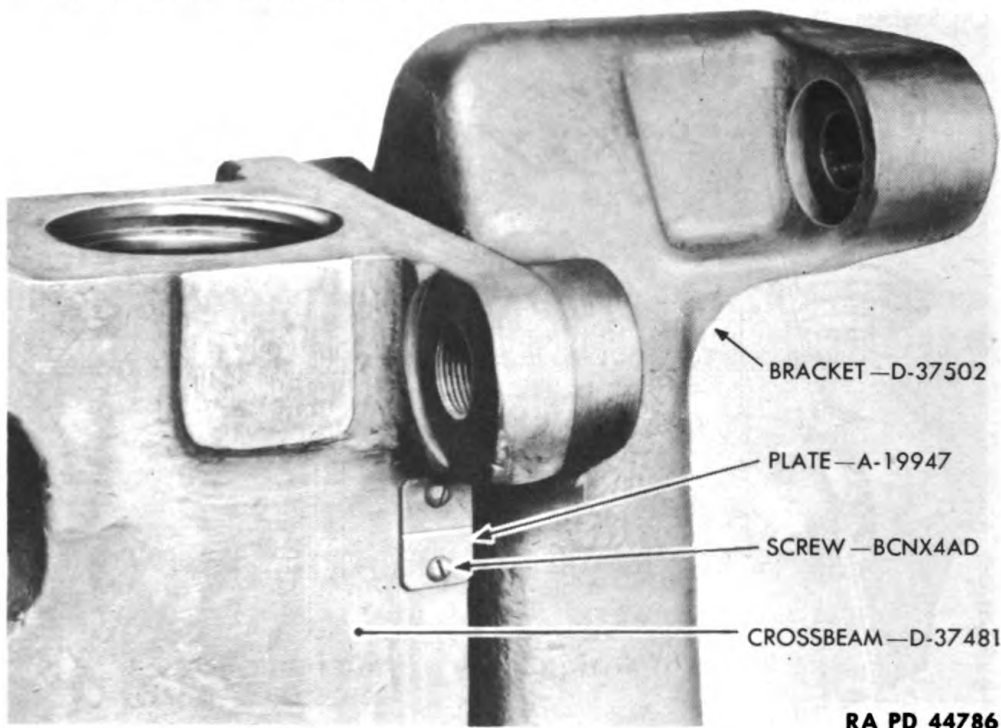

Figure 274—Indicator Plate
d. Remove Indicator Plates. Remove two screws BCNX4AD that hold indicator plate to bogie crossbeam and lift off indicator plate A19947. Repeat procedure on opposite indicator plate (fig. 274).